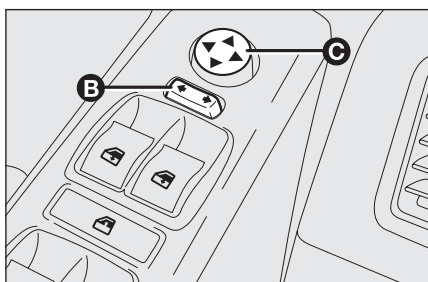

fig. 55
- ☐ use switch **B**-fig. 55 to select the mirror required (left or right);